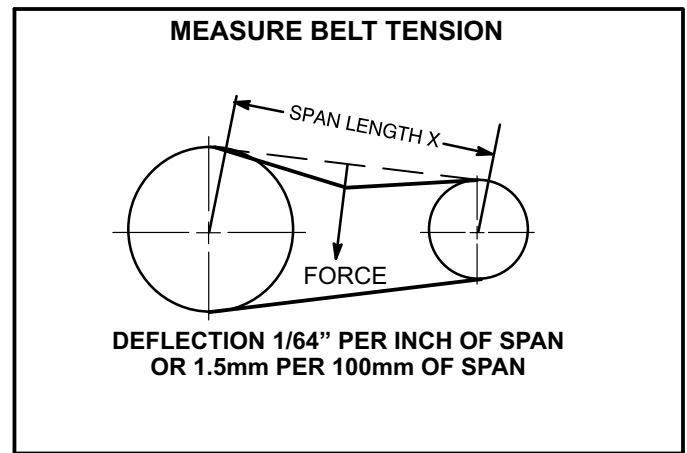

FIGURE 21
- 1- Measure span length X. See figure 21.
- 2- Apply perpendicular force to center of span (X) with enough pressure to deflect belt 1/64" for every inch of span length or 1.5mm per 100mm of span length.